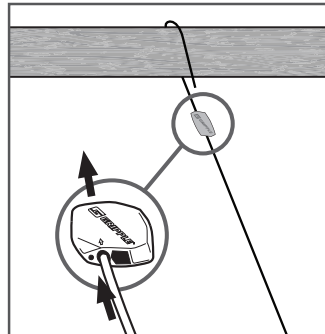

FIGURE 4: THREAD GRIPPLE
1. Thread Gripple onto cable (see inset detail). Pass over ceiling anchor point (as shown) or through other secure anchor point of the building structure. Installer is responsible for ensuring that anchor point is secure to building structure. (See figure 4).